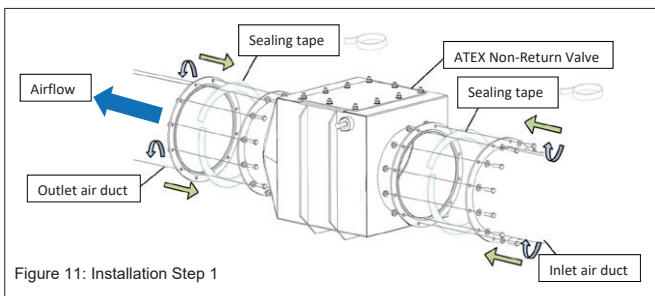

Figure 11: Installation Step 1
Step 1: Connect the inlet and outlet to the duct system with the correct fasteners (Figure 11). Use non-electrostatic sealing to make it airtight.